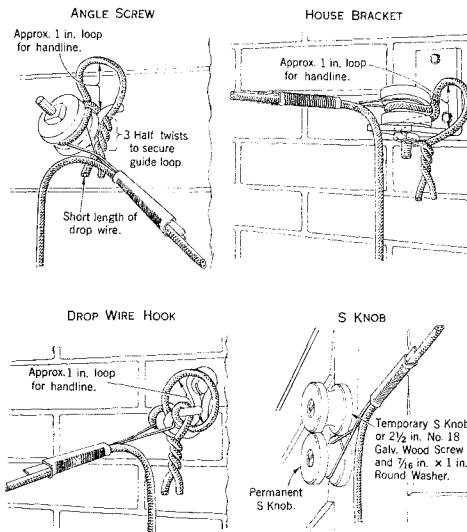

Fig. 2 – Temporary Guide Loop
- (1) Remove the C knob or the SC wire clip and the associated loop of drop wire from the first building attachment. Do not remove the drop wire clamp which supports the wire span.
- (2) Attach a temporary guide loop to the first building attachment, such as shown in Fig. 2, to prevent the handline used in releasing the excess tension from becoming accidentally disengaged from the building attachment.
- (3) Place a temporary drop wire clamp on the wire to be lowered, about one foot out in the span. Seat the clamp firmly on the wire.
- (4) Place a handline over the first building attachment and through the temporary guide loop. Tie the handline securely to the tail of the temporary drop wire clamp.
- (5) Return to the ground. Pull the handline sufficiently taut to remove tension from the original drop wire clamp and lash the handline to a substantial and secure support near the base of the building.
- (6) Check to ensure that the tension in the drop wire span has been removed from the tail of the original drop wire clamp.
- (7) Cut the tail of the original drop wire clamp with pliers.
- (8) Return to the ground. Untie the handline and slowly ease off the handline, thereby releasing excess tension in the taut drop wire span. Retie the handline to a substantial and secure support near the base of the building.